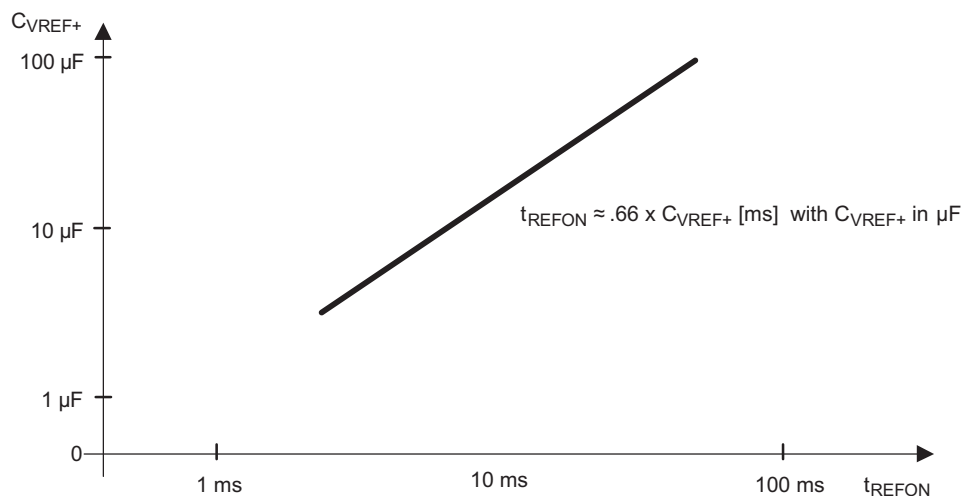

Figure 39. Typical Settling Time of Internal Reference tREFON vs External Capacitor on VREF+
| t REFON     | Settle time of internal reference voltage (see Figure 39) (4) (2)        | I VREF+ = 0.5 mA, C VREF+ = 10 μF,V REF+ = 1.5 V, V AVCC = 2.2 V                         | 2.2 V           |               |     | 17   | ms     |   |